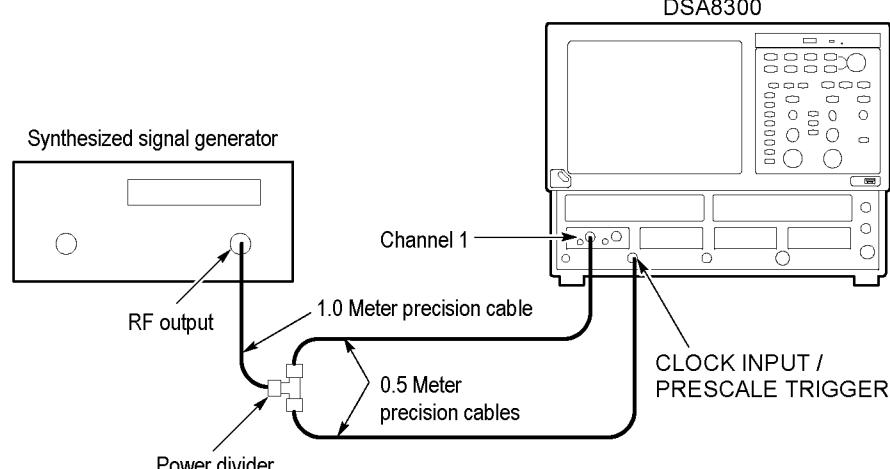

Figure 16: External prescaled trigger sensitivity test setup
2. Connect the test equipment (See Figure 16.)